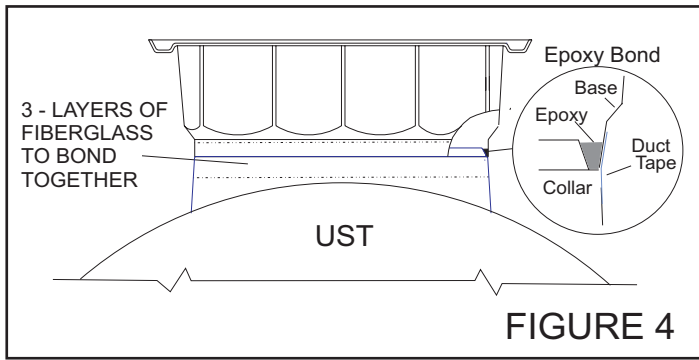

FIGURE 4
G. To attach base to collar if using a pre-measured epoxy kits, first tape off joining area on the exterior of base with duct tape. Mix epoxy per it's labeled instructions and pour. Do not disturb until hard and material has cooled. Refer to FIGURE 4
H. If using a fiberglass kit, apply fiberglass matting one layer at a time around entire perimeter of sump following it's labeled instructions until you have 3 layers completed. Wait until it hardens, then top coat with catalyzed gelcoat to complete process. Refer to FIGURE 4